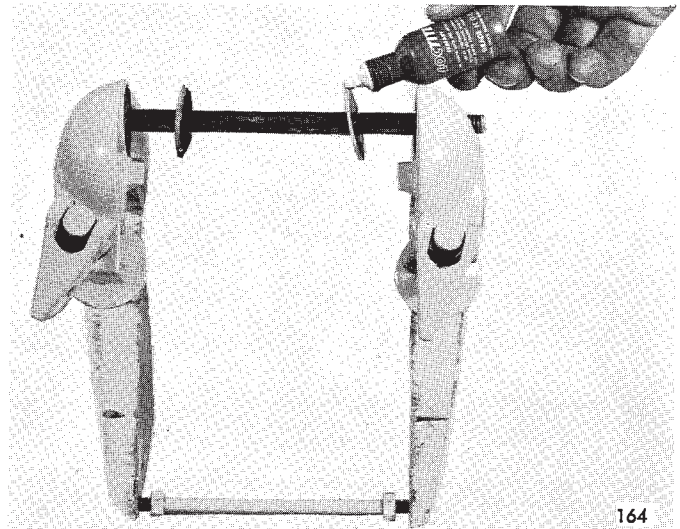

FIGURE 37 — STERN BRACKET INSTALLATION
13. Turn stabilizer stud into stern brackets until arriving at a dimension of 4-25/32" between inside faces of stern brackets, as shown in Figure 37.